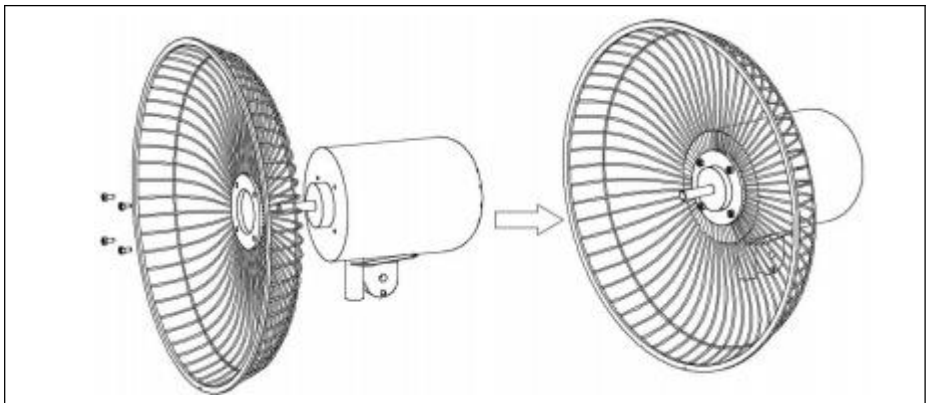

Fig.5.
- 1). Remove the grille screws from the motor head.Then,fix the rear grille(13) on the motor head with the rear grille screw (15) as shown in the diagram (Fig.5.)